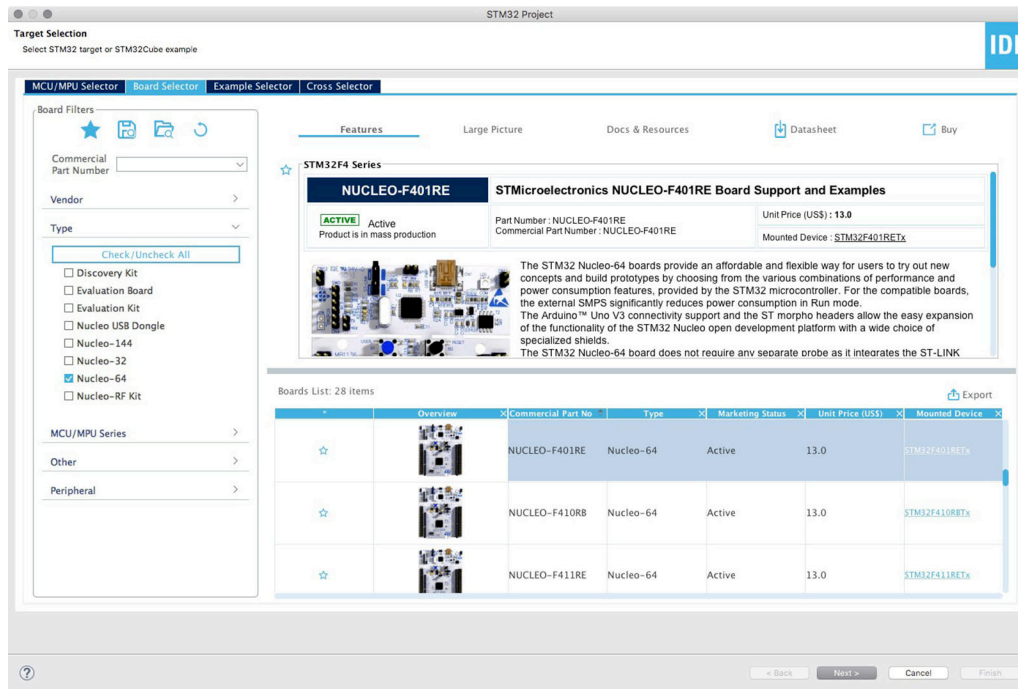

Figure 3.1: The Target Selection wizard - STEP 1
Start by navigating to **File->New->STM32 Project**. After a few moments, depending on your current IDE setup, the **Target Selection** wizard will appear (as shown in **Figure 3.1**).
Next, switch to the **Board Selector** tab (highlighted in light blue in **Figure 3.1**). Expand the **Type** dropdown menu and choose the **Nucleo-64** family of boards. From the resulting list, locate and select your specific Nucleo-64 board model to proceed.
Once you have selected your board from the list, click the **Next** button. In the following window, enter a name for your project in the **Project Name** field (for example, *hello-nucleo*, although you can choose any name that fits your project). Leave all other options at their default settings, as shown in Figure 3.1, and click **Finish** to begin generating the project.
- **Examples projects for development boards:** ST offers a wide range of example projects for its development boards. These projects demonstrate how to use specific features of the board and can serve as valuable references for your own work. To browse these examples, click on the **Example Selector** tab in the **Target Selection** wizard (as shown in **Figure 3.1**). They can be an excellent starting point for your development.